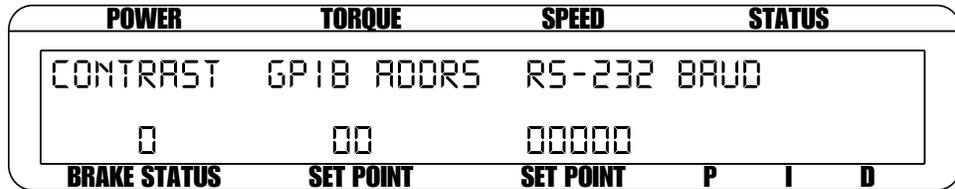

Figure 8-2 Com Setup Menu Display
2. Press the COM SETUP button. The display will appear as shown in *Figure 8-2 Com Setup Menu Display*.